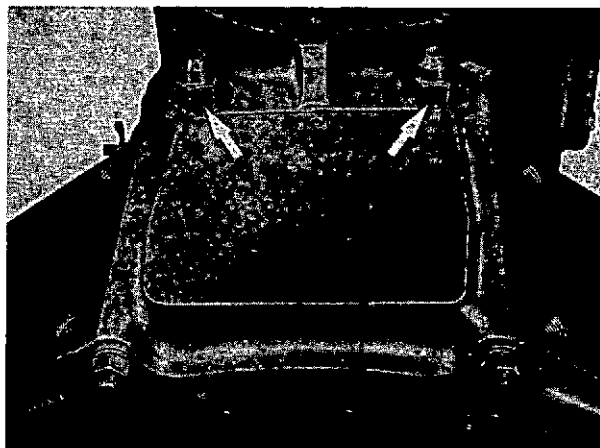

Fig. 4 Rear main bearing capnuts (front identical)
25. Using extension spanner GA.21, slacken external capnuts of front and rear main bearings (figs. 4 and 5).
27. Remove main bearing nuts, including external capnuts (fig. 4).